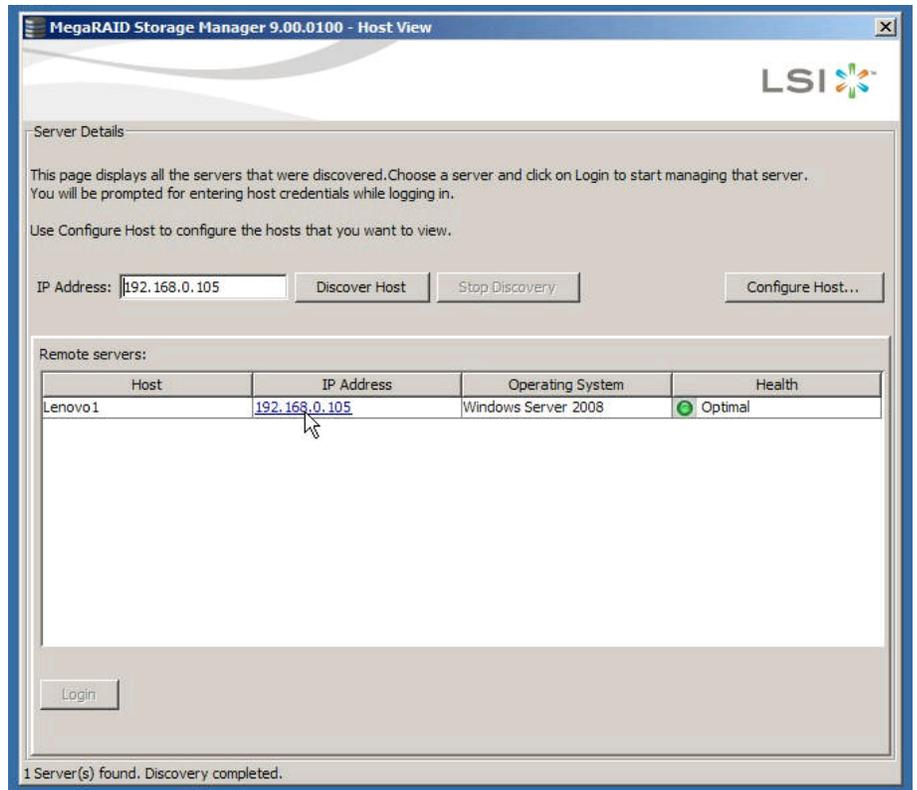

Figure 11. Selecting the local server IP address.
- Click the local server IP and log into the management console using the appropriate credentials to log into management console. (See Figure 11.)